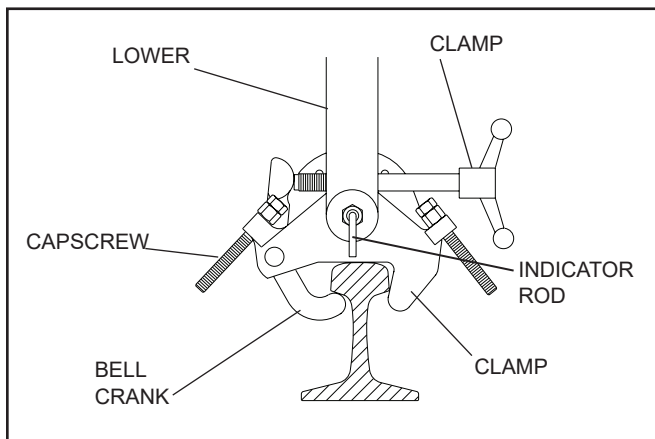

Figure 2.
2. Make sure the rail clamp assembly is tight to the disconnect pivot (60) by turning the handle (20) to tighten the disconnect pivot bolt.
3. Fully extend the indicator rod located on the clamp and position the rail clamp on the rail so the clamp arms bear on the top and sides of the rail and the bell crank bears under the rail as shown in Figure 2.
An optional method is to disengage the detent and adjust the capscrews (see Figure 2) as required.